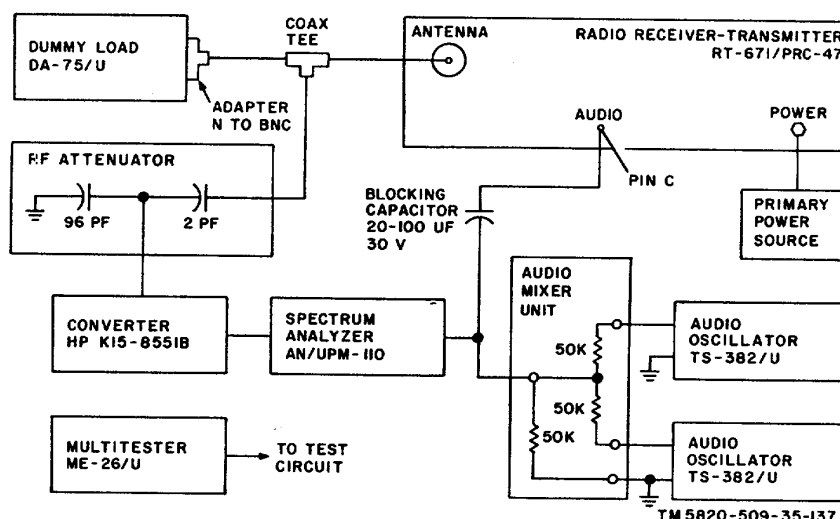

Figure 5-3 Transmitter Spurious Outputs Adjustment. Equipment Setup
(fig. 5-3)
- (1) Spectrum Analyzer AN/UPM-110
- (2) Converter, Hewlett-Packard K15-8551B
- (3) Dummy Load DA-75/U
- (4) Attenuator (see figure 5-3)
- (5) Audio mixer unit (see figure 5-3)
- (6) Multimeter ME-26A/U
- (7) Audio Oscillator TS-382/U (2 required)
- (8) Primary power source; 115-volt, 400-Hz, single-phase, 3 amps.
(1) Connect the test equipment to Radio Receiver-Transmitter RT-671/PRC-47 as show' in figure 5-3. Do not connect the ME-26A/U until instructed to do so.
(2) Connect the primary power source to the receiver-transmitter.
(3) Turn on the test equipment and place the POWER-LIGHTS switch on the RT-671/PRC-4' to POWER ON. Permit the equipment to stabilize for at least 5 minutes before beginning the procedures listed in the chart below.